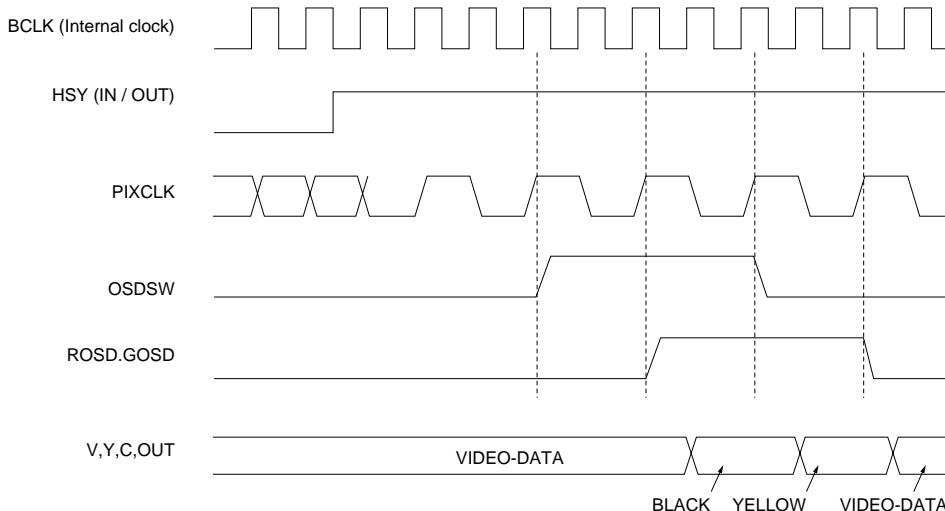

Fig.15 Clock timing with the OSD function
- * The frequency of the PIXCLK pin output is one-half that of the internal clock. This phase is determined at the rising edge of HSY, as shown in Fig. 15. (In the Encoder Master mode, phase correction is implemented using the HSY output of the BU1424K itself.) The OSD function is effective only during the time that video output is enabled.